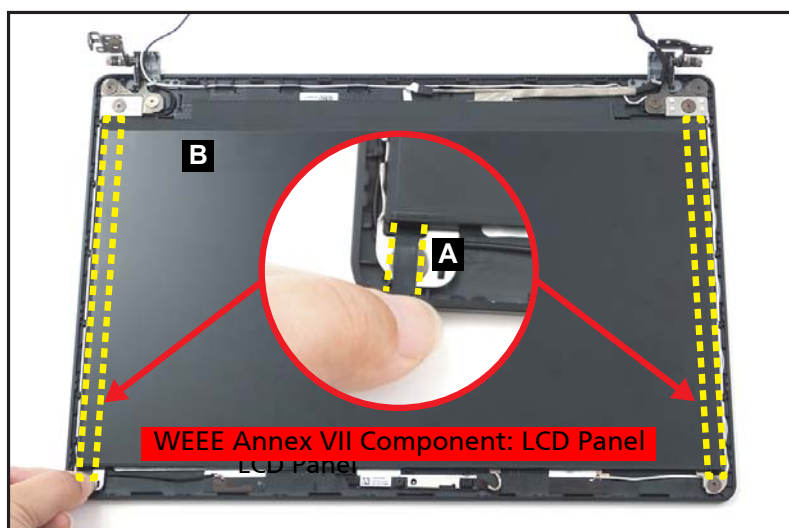

Figure 1-61. LCD Panel Removal
1. Pry slightly to access the double-sided mounting tape (A) underneath the LCD panel (B). Then pull to detach the double-sided mounting tape from the LCD cover. Repeat the same procedure to remove the double-sided mounting tape on another side of the LCD panel (Figure 1-61).